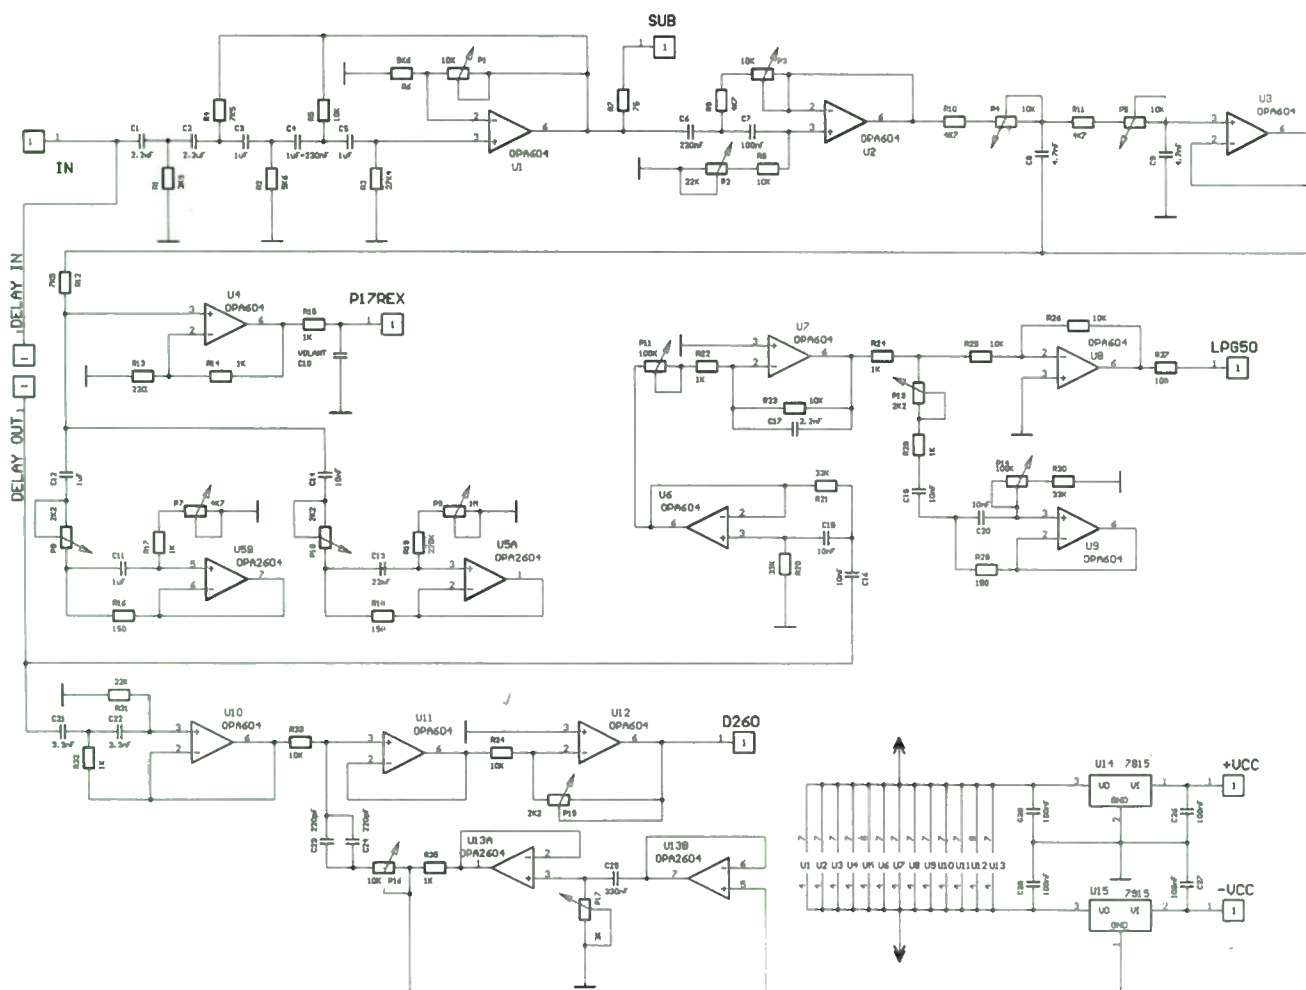

FIGURE 20: Four-way filter schematic.
The schematic of the filter is shown in *Fig. 20*. U1 and the associated components form a fifth-order high-pass 20Hz filter, the purpose of which is to avoid excessive cone excursion of the subwoofers, especially with warped vinyl records. The response of this filter is shown in *Fig. 21*.
- Op-amp selection: Looking at the *Fig. 20* schematic would drive addicts of single-ended triode amplifiers crazy. A handful of op amps is a crime against music. Although I may point out that before the recorded signal